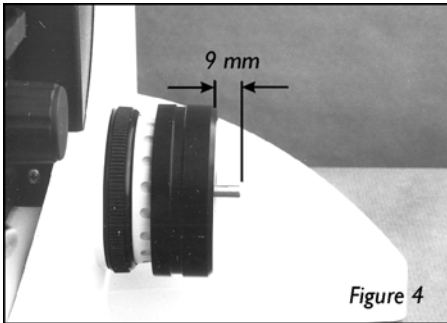

Figure 4
4. Push this fully towards the body of the microscope leaving approximately 9mm of shaft protruding from the adapter ring whilst tightening up the adapter ring using the 2mm hexagonal wrench key (figure 4).